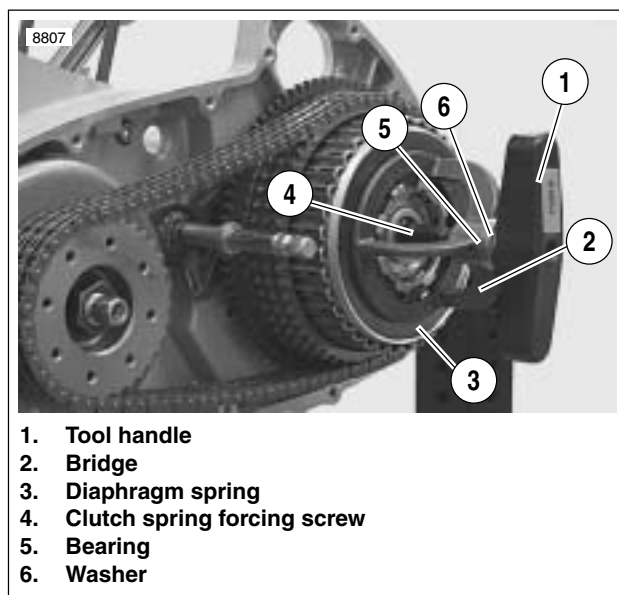

Figure 6-12. Compressing Clutch Diagram Spring
4. See Figure 6-12. Attach tools to compress clutch diaphragm spring.